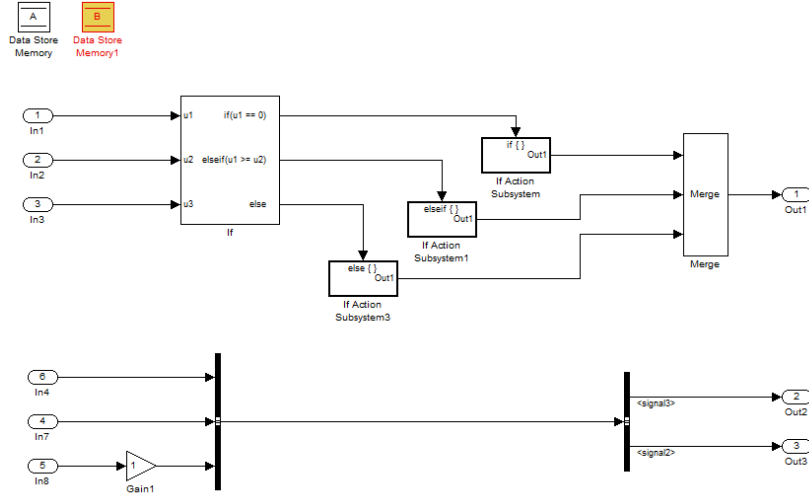

Figure 7: Resulting model after Reach/Coreach operation.
5. Let us now perform a reach/coreach in the model. First, reopen the demo model, so as to start from new. Right-click on **Data Store Memory B**, and select the **Reach/Coreach From Selected** option. The resulting model is shown in Figure 7. By doing both a reachability and coreachability analysis on this block, we can see the total impact that this block has on the model. In this case, no other blocks or signals are highlighted, meaning that this block has no purpose in the model. It is not used by anything,